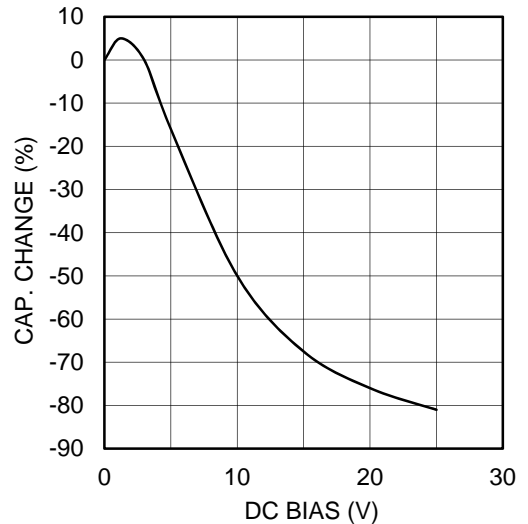

Figure 6 DC bias characteristic
Next, calculate output ripple voltage by substituting each parameter to equation (7). At this point consideration for DC bias characteristic of ceramic capacitor is necessary. In this example, because the voltage impressed to capacitor is 3.3V, 2% will be reduced from rating capacitance value as in Figure 6. Also, ESR of ceramic capacitor is 2mΩ and ESL is 0.4nH.